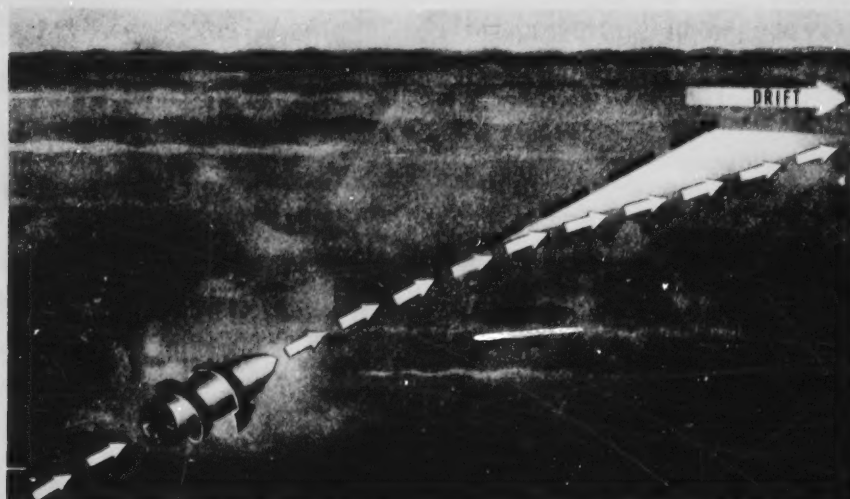

Figure 12-4.— Clockwise projectile spin causes drift to the right.
5. DRIFT (fig. 12-4) is a deflection of the trajectory to the right, and is caused by the interaction of gravity, air resistance, and the